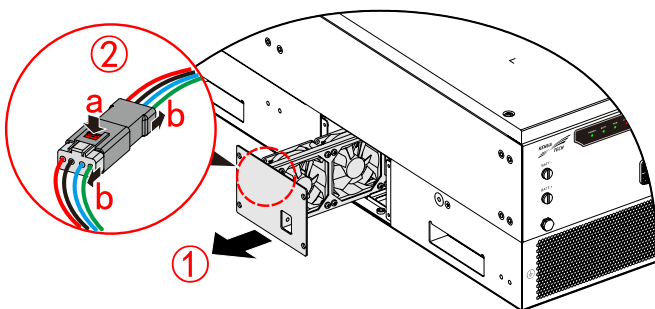

Figure7-21 Loosen the wiring of fan module
Step 6 Pull out the fan module gently and loosen the connectors of fan, as shown in Figure7-21.